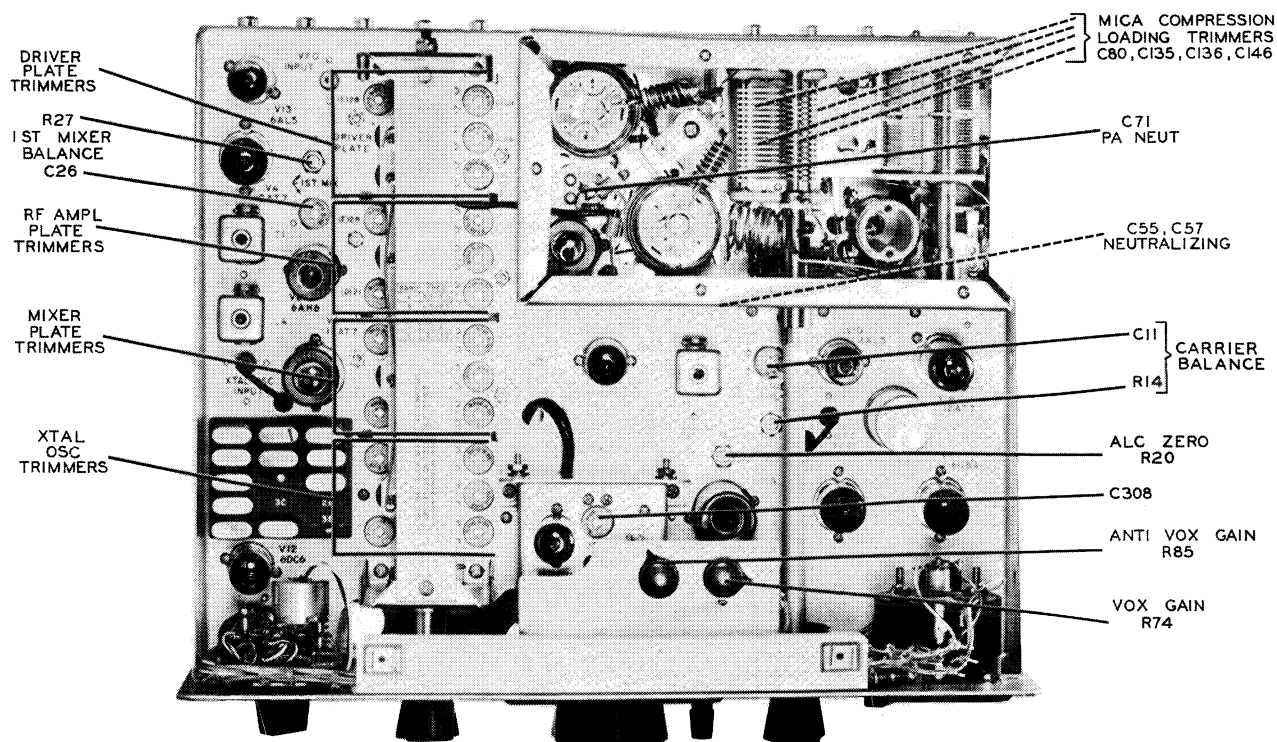

Figure 4-1. Location of Adjustments
Table 4-1 lists significant test points and normal signal levels. Figure 4-1 shows location of adjustments. Before making measurements, set EMISSION switch to USB, and disable the power amplifier by
4.4.2 455-KC I-F ALIGNMENT. (Refer to figure 4-1 for location of adjustments.)